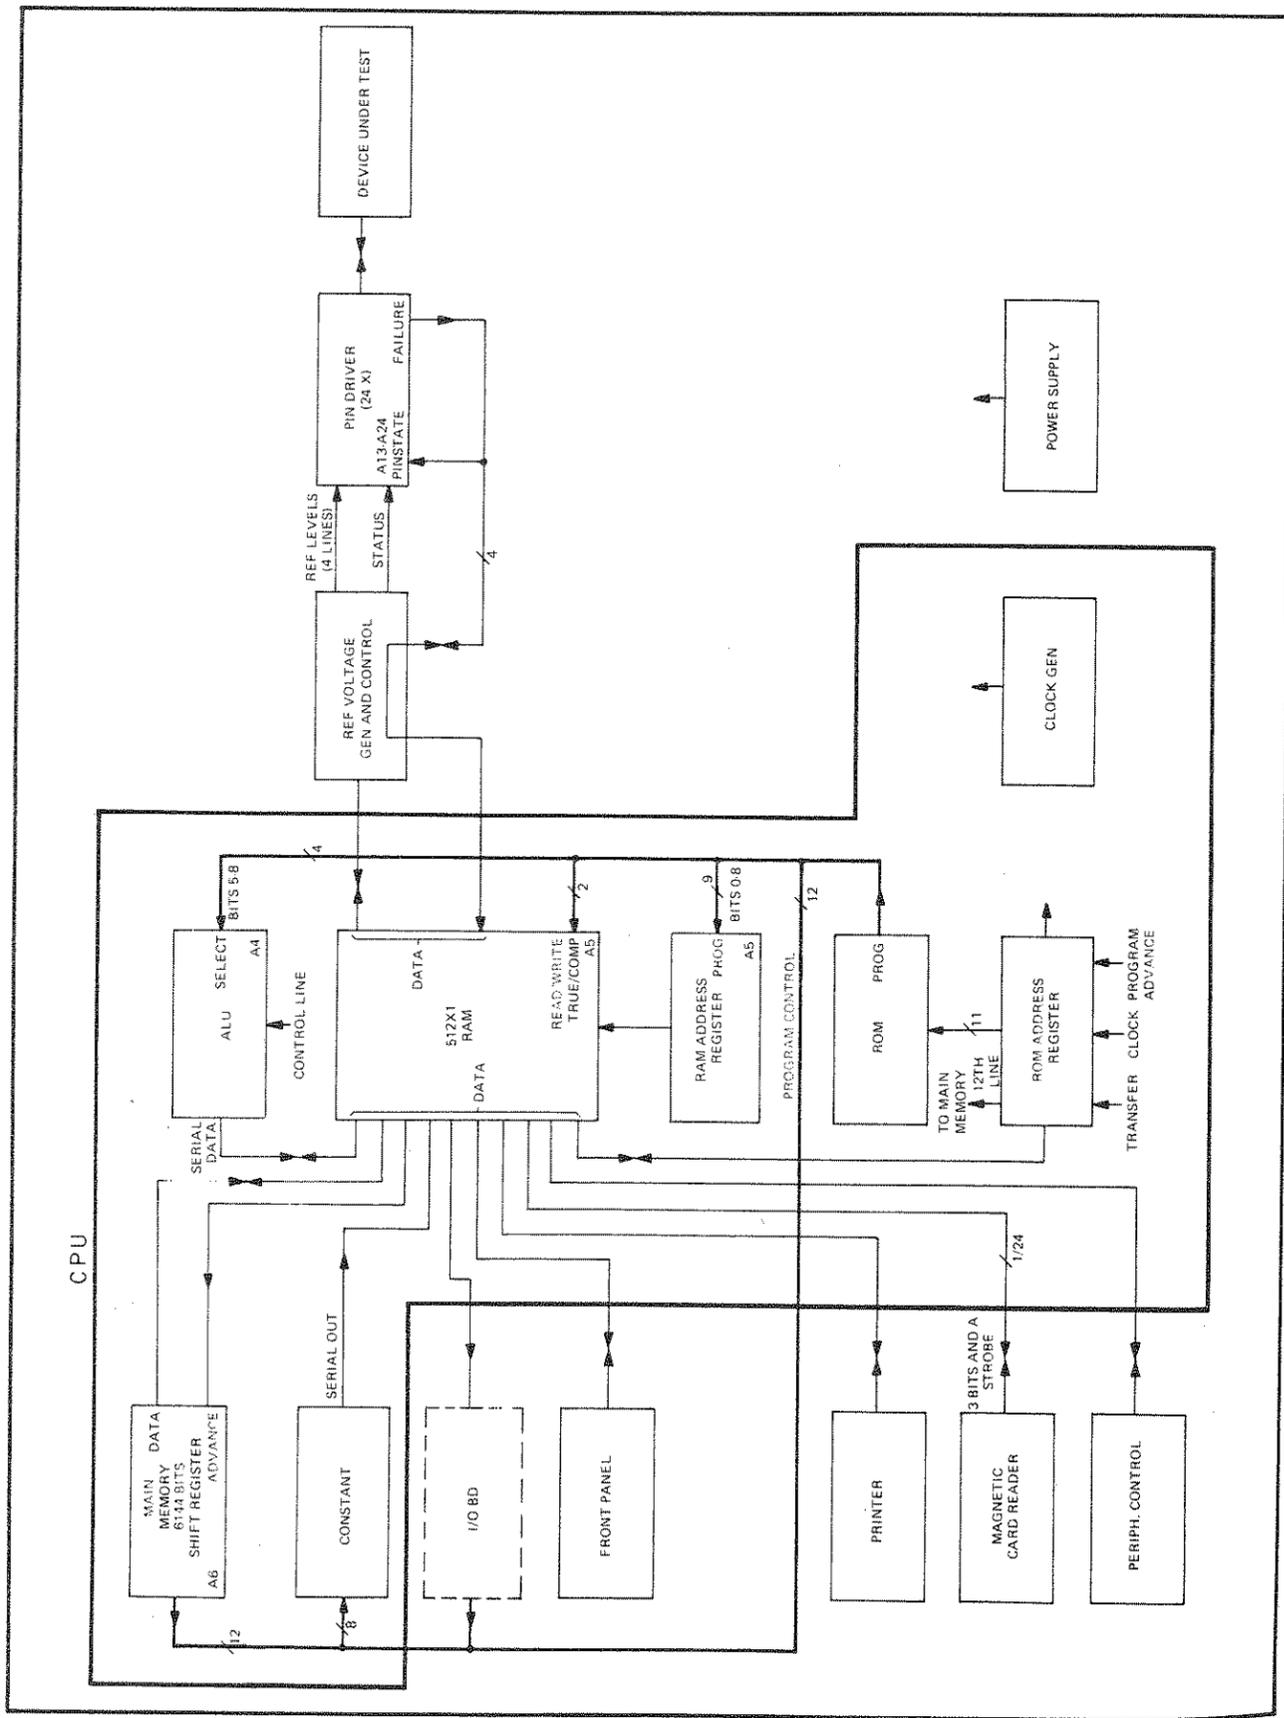

Figure 8-10. Simplified Block Diagram
**8-175. THE ALU.** The block located immediately above the RAM (Figure 8-10) represents the tester's ALU (Arithmetic Logic Unit). The ALU functions as a decision-making block as the CPU steps through its algorithm. It also serves as a logic model simulator. This section, which can be viewed as a group of "building blocks", performs either logic functions or arithmetic operations, as determined by a control line. Once the operating mode has been established, four of the Program Control lines (bits 5-8) select the actual function to be performed. For example, assume the control line has chosen a Logic Function operation. The four-line code, then must select the *specific* function to be performed — for example, an eight input OR gate, an Exclusive OR, or perhaps a D type flip-flop. Selection of the logic function is in accordance with the device under test and is accomplished by arranging the "building blocks" so they can simulate a logic function.